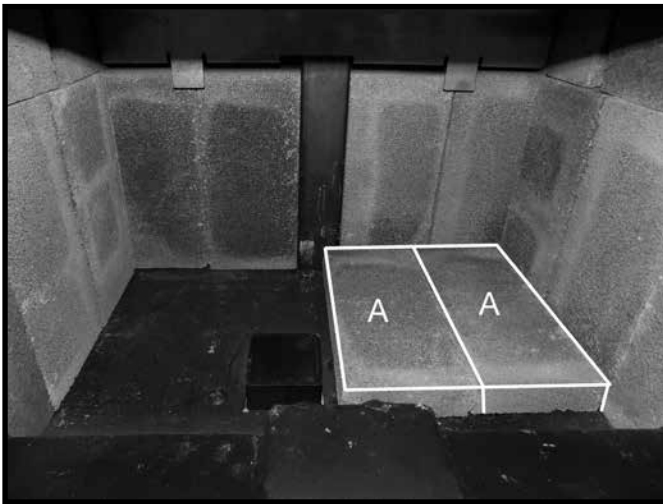

Figure 21. First two floor bricks in place.
- Place two "A" firebricks on the firebox floor as shown in Figure 21. on page 15